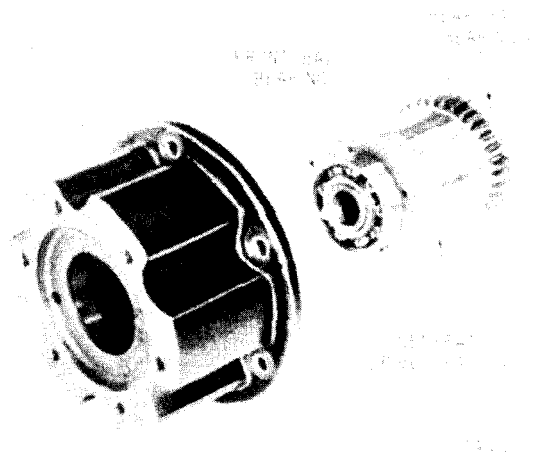

Figure 3-163. Pressing generator drive gearshaft from ball bearings. Model AVDS-1790-2C Engine.
- (1) *Disassembly.* Press generator drive gearshaft (fig. 3-163) from rear ball bearing using a